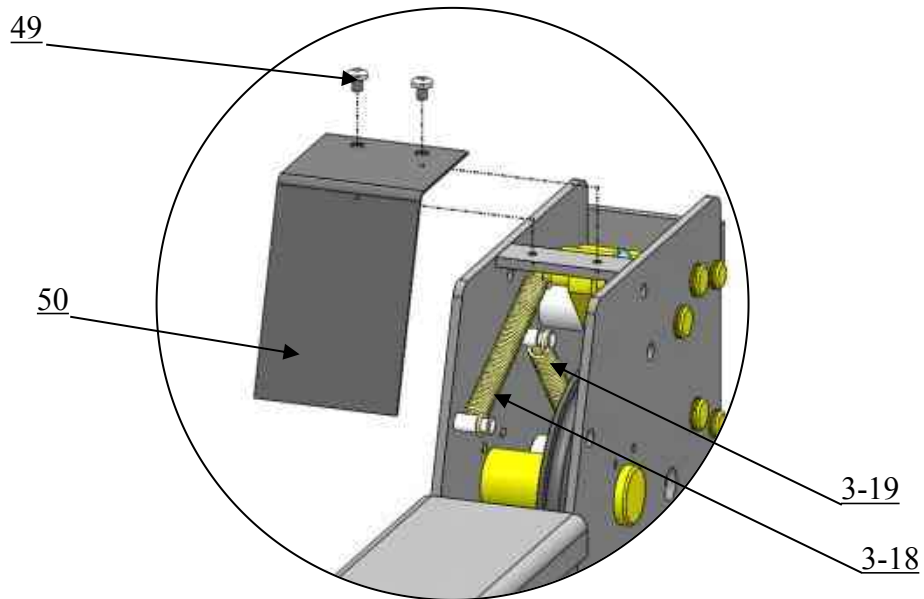

Fig. 31
4. Install tension spring and cross beam protective cover. (See Fig. 31).